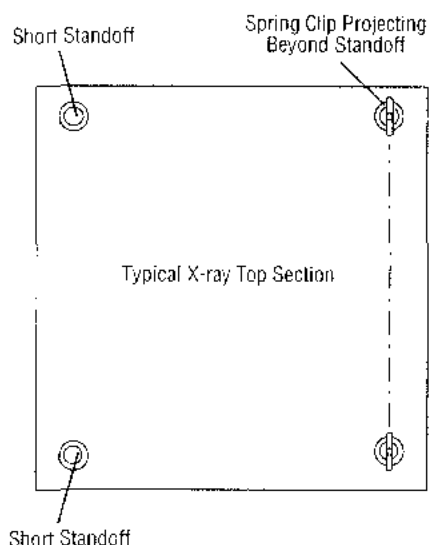

Figure 4-12. X-ray Top Spring Clips and Standoffs
2. Rotate the spacers so that the spring clips are in line when viewed from beneath the tabletop (see Figure 4-12).